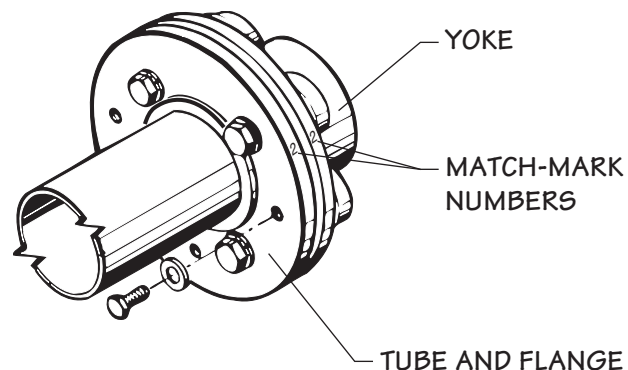

Figure 3 Series 6Q shown
Marley driveshafts consist of a motor and Geareducer yoke with rubber bushings and a tube and flange assembly. Driveshafts are balanced dynamically and tube and yoke flanges are match-marked. See Figure 3. Do not change position or relation of match-marked components during installation.
7. Replace the driveshaft tube and flange assembly. Be sure to match the numbers on the tube flanges with their respective numbers on the motor and Geareducer yokes. Install $\frac{5}{8}$ " machine bolts or cap screws in each end of driveshaft. Tighten to 60 ft-lbf (82 N·m) torque. See Figures 3 and 4.